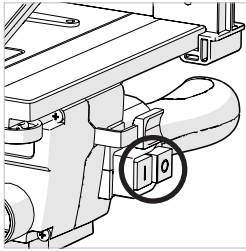

Fig. 20
1. Table Saw On/Off Switches (Fig. 20)
- Push the Green (I) button to start the motor.
- Push the Red (O) button to stop the motor.